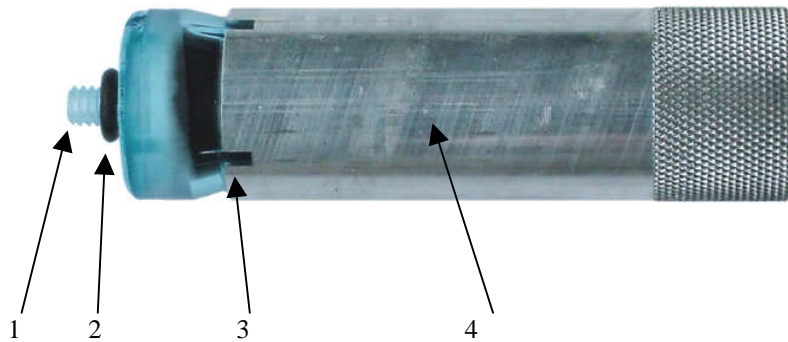

Fig. 7
- Insert new filter into filter-exchange tool .Make sure that the rubber gasket (fig. 7, item 2) of the filter cartridge is in place. Insert tool with filter into opening on instrument front panel.